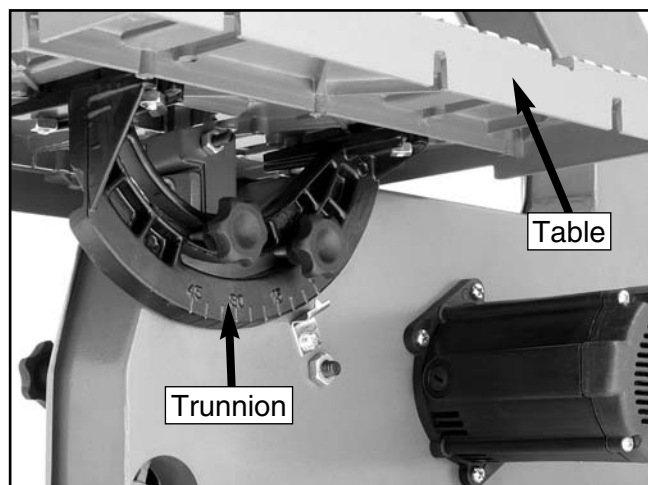

Figure 13. View of the table/trunnion assembly attached to the body of the bandsaw.
8. Secure the table/trunnion assembly to the bandsaw with the two knob bolts that were removed in **step 5**, (**Figure 13**).